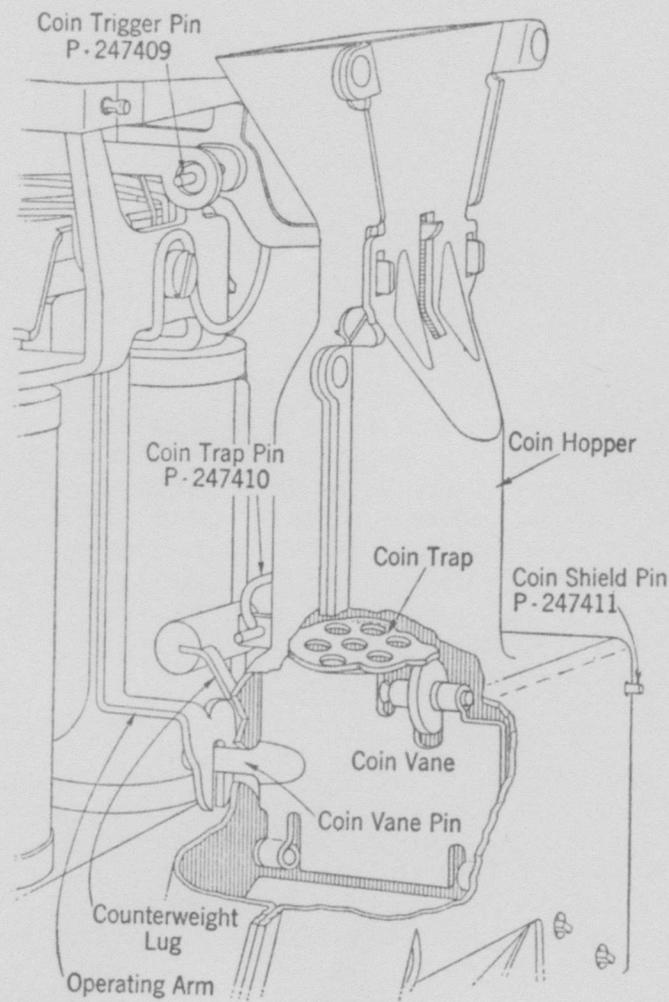

Fig. 5.
5.02 When a coin drops into the coin hopper it trips the coin trigger and comes to rest on the coin trap where it is held until the coin relay is operated. See Fig. 5. The tripping of the coin trigger permits the coin trigger lever to fall and the coin trigger lever spring then pushes the coin trigger lever against the inner ground contact spring causing this spring to make contact with the outer ground contact spring. This contact closes a circuit from the tip side of the line through the coin relay to ground and is maintained until the armature of the coin relay has operated and has nearly re-stored. See Fig. 4.